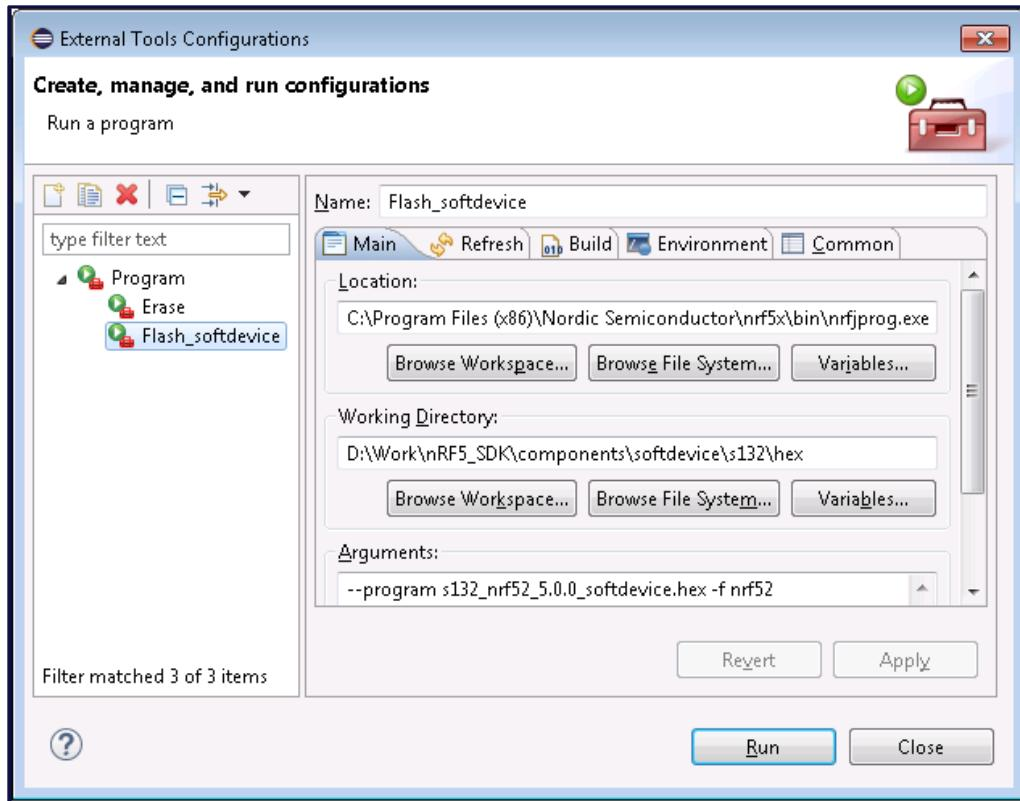

Figure 23: Adding Flash_softdevice to External Tools Configurations
7. Click **Apply**, then click **Run** (Figure 23).